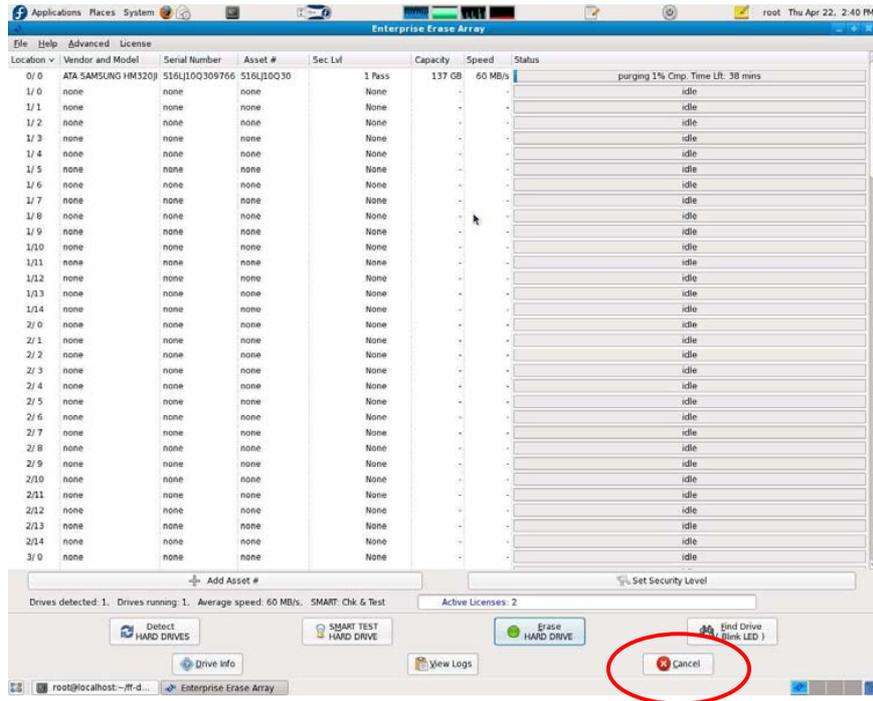

Figure 4.1 – Location of the Cancel Button on the Main User Interface Screen
4.2 Once the drive has been selected, press the button at the bottom of the user interface screen marked “Cancel”. Figure 4.1 shows the location of this button.